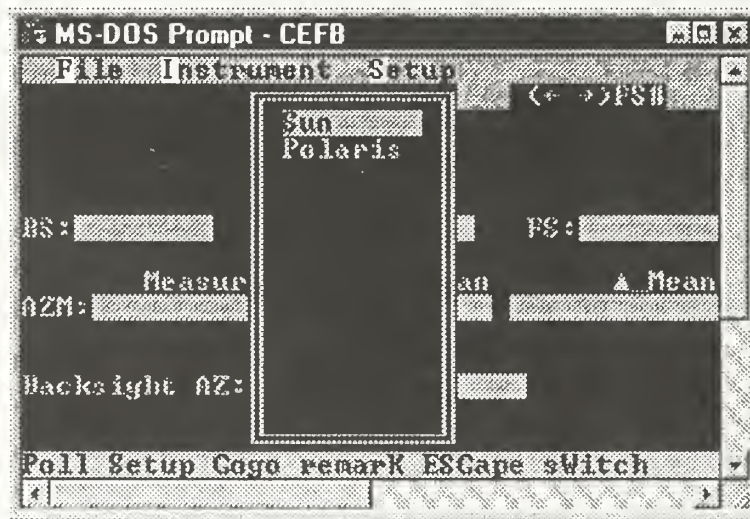

Figure 5.1: Celestial FS Prompt
A astronomic setup in CEFB is defined by the back sight station (BS), the occupied station (OC), the HI (if prompt turned on), and the foresight station (FS). The FS is going to be the stellar body being sighted. The surveyor is immediately prompted for these fields whenever the astronomic Module is invoked. The prompt the FS is a pick list containing, at this point, the sun or polaris for choices. This pick list is shown in Figure 5.1.
After a selection is made in Figure 5.1, CEFB will attempt to read an ephemeris ('year'.ep) file in the CEFB default directory and automatically interpolate values for the Greenwich hour angles, declinations, and semi-diameters. If the surveyor selects the sun option in Figure 5.1, he or she must then define the position sighting of the sun. This prompt is shown in Figure 5.2.